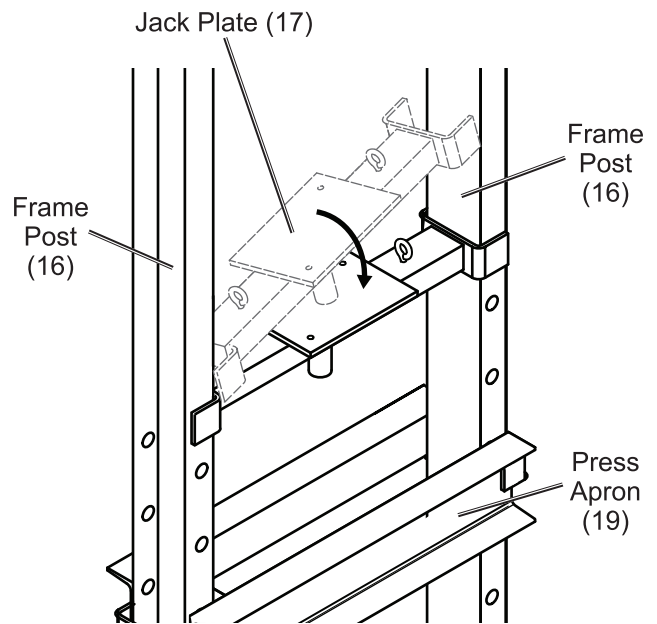

Figure 6
- Angle the Jack Plate (17) so the rails of the Jack Plate straddle the Frame Posts (16), then lower into place by sliding it down the Frame Posts so it rests temporarily on the Press Apron (19). See Figure 6.